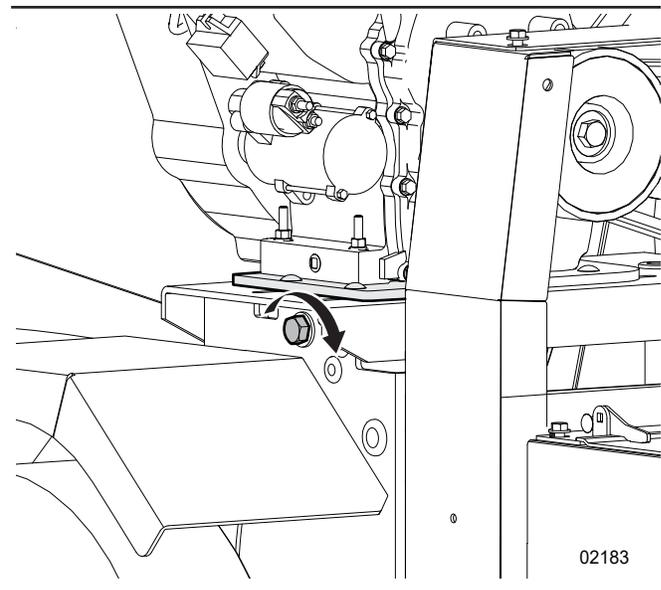

Figure 27—Drive belt tensioning bolt
3. Turn the drive-belt tensioning bolt to move the engine and remove tension from the drive belt. See *Figure 27*.
4. Use the drive-belt tensioning bolt to set the drive belt tension. See *Figure 27*.